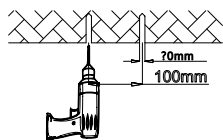

Figure 3
1. Use a chalk or sharp tool to mark signs on the top of the ceiling or wall, then drill holes on the signs by electric drill (Figure 3)